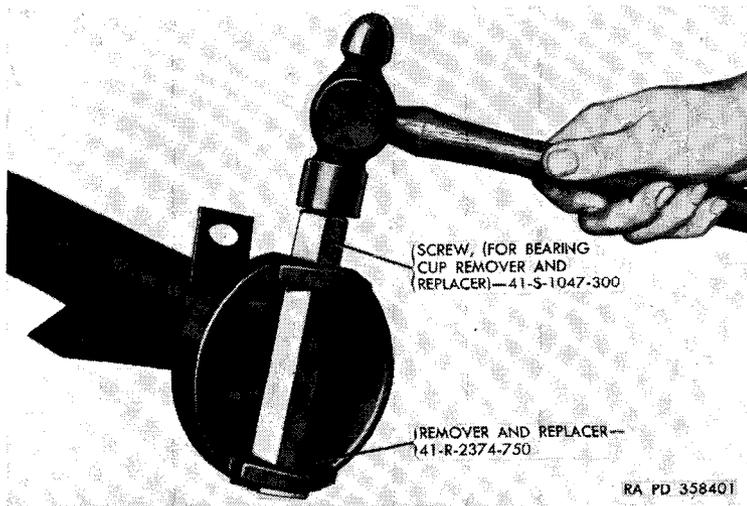
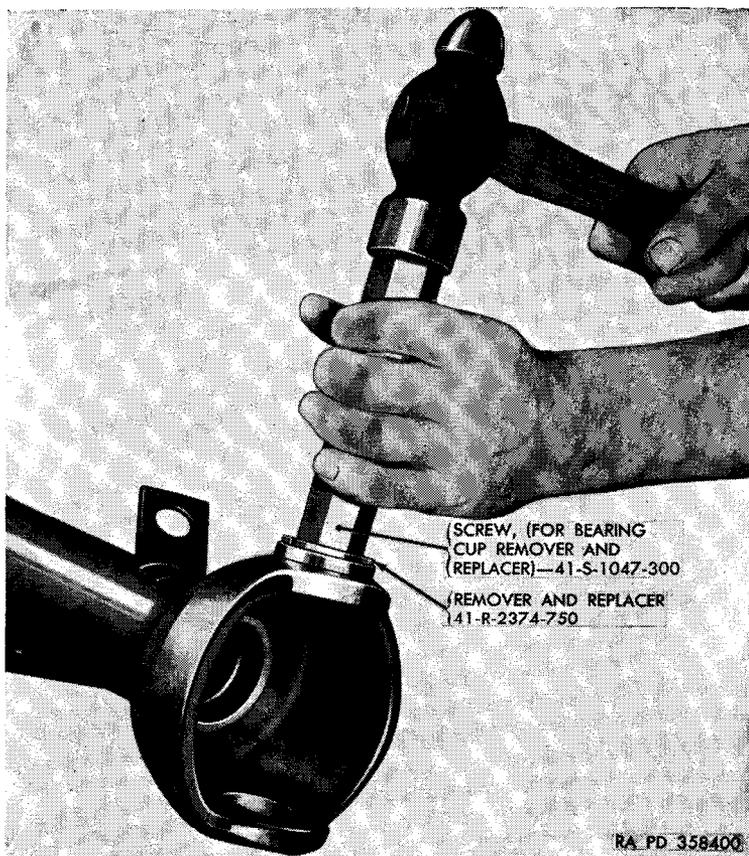

Figure 74. Removing king pin bearing cup.
Figure 75. Installing king pin bearing cup.
d. *King Pin Bearing Cup Replacement.* Working through one of the king pin bearing cups (N and P, fig. 57) and using remover and replacer 41-R-2374-750 and screw 41-S-1047-300, remove the opposite king pin bearing cup (fig. 74). Turn the gear carrier housing over and remove the other king pin bearing cup. To install new king pin bearing cups, place the king pin bearing cup in position and, using the same remover and replacer, seat cup until it is flush with the shoulder (fig. 75).